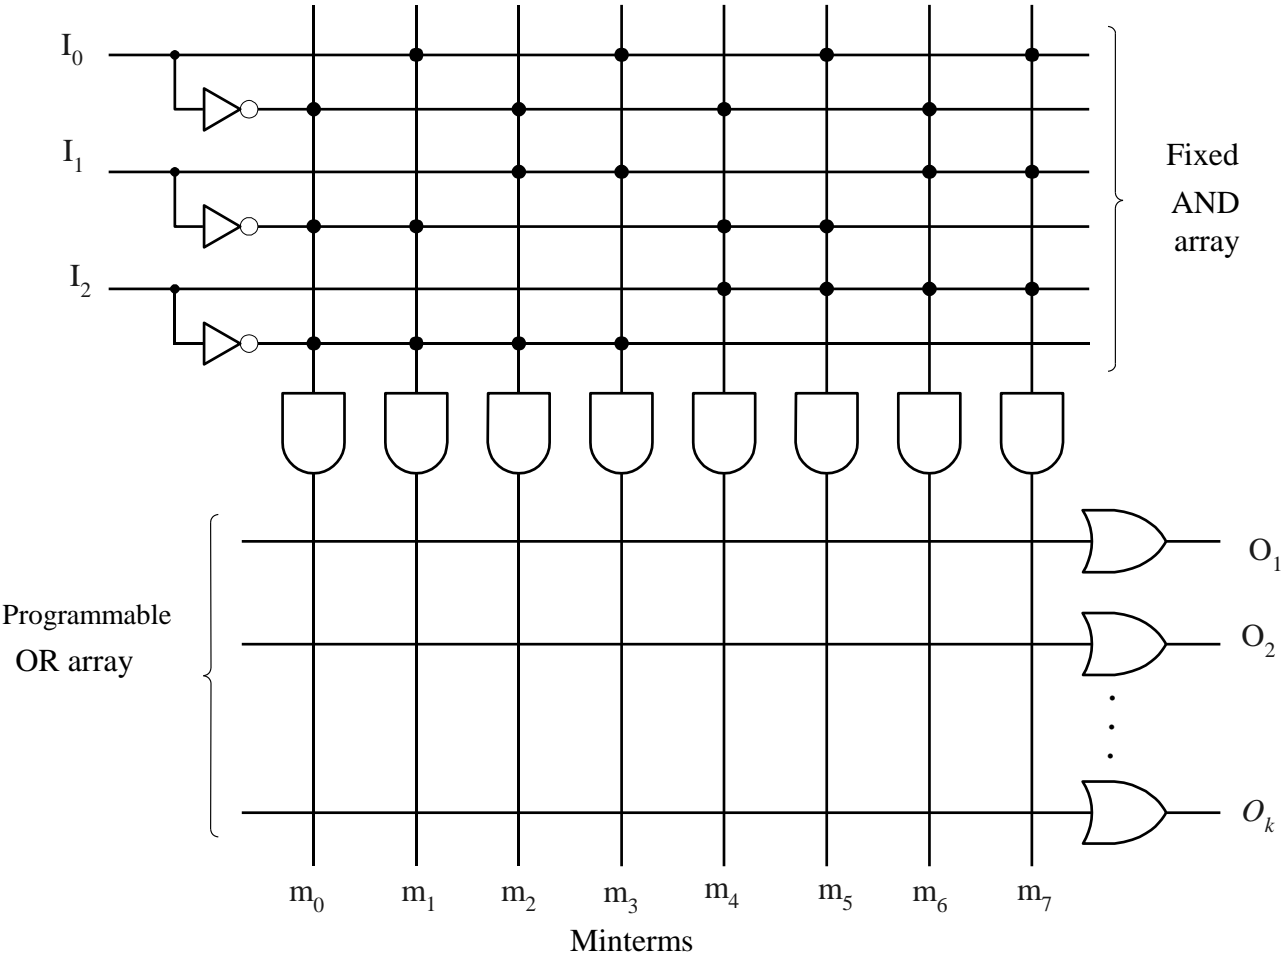

Figure 5.21
- A PROM comprises a fixed AND array and a programmable OR array, as illustrated in Fig. 5.21.